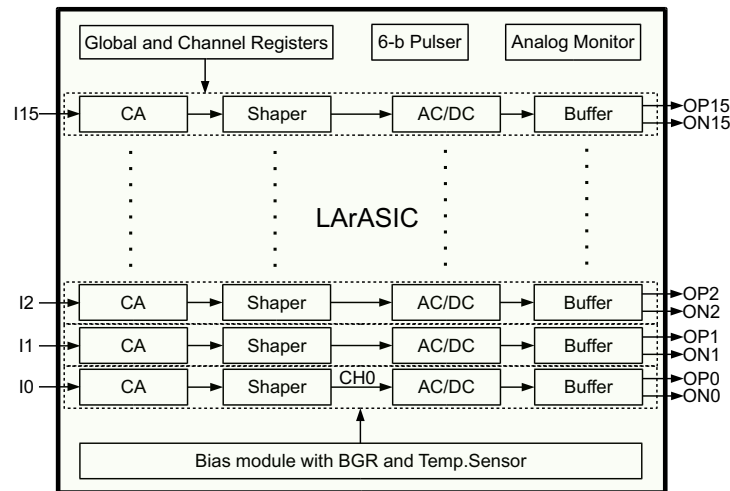

Fig. 1. Simplified block diagram of LArASIC
LArASIC is a programmable, full-functionality 16-channel front-end ASIC in 180 nm CMOS designed for the Deep Underground Neutrino Experiment (DUNE) single-phase (SP) liquid argon (LAr) time-projection chamber (TPC). It is capable of performing a low-noise, highly-linear charge amplification by a factor of up to 320x, higher-order shaping with a charge to voltage conversion, ac/dc coupling along with high-performance buffering in each channel. Signals can be read out using direct outputs of the shaping amplifiers, single-ended output buffers, or single-to-differential converting output buffers. It is designed and optimized to operate at the cryogenic temperature of 87 K, reliably for over 20 years of the experiment's lifetime. A simplified block diagram is as shown in Fig. 1